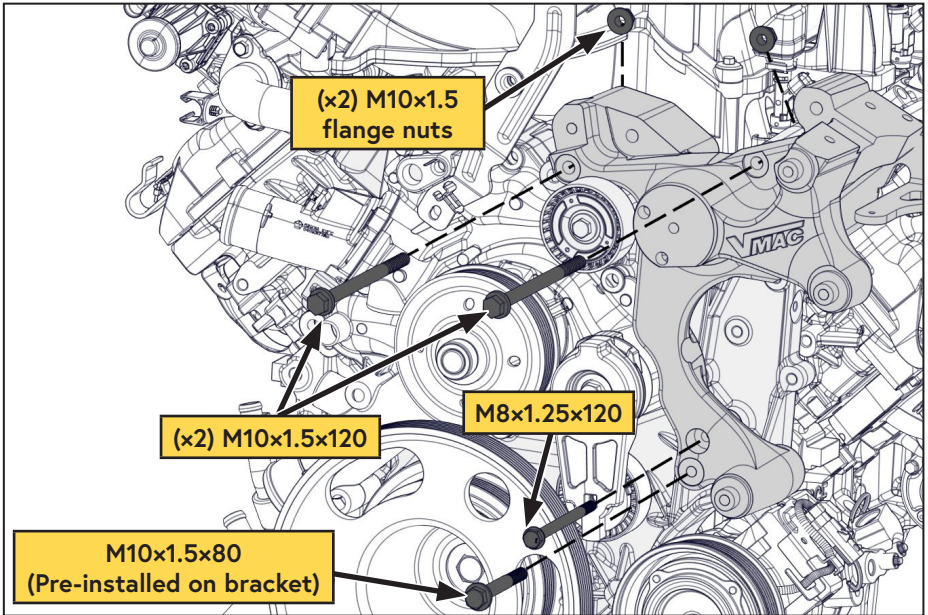

Figure 17 — Install VMAC main bracket
- ☐ Using the (x2) M10x1.5x120 mm fasteners with (x2) M10x1.5 flange nuts, and the M8x1.25x120 mm fastener, mount the VMAC main bracket to the engine (Figure 17).
- ☐ Install the M10x1.5x80 mm tensioner pry bolt (Figure 17).